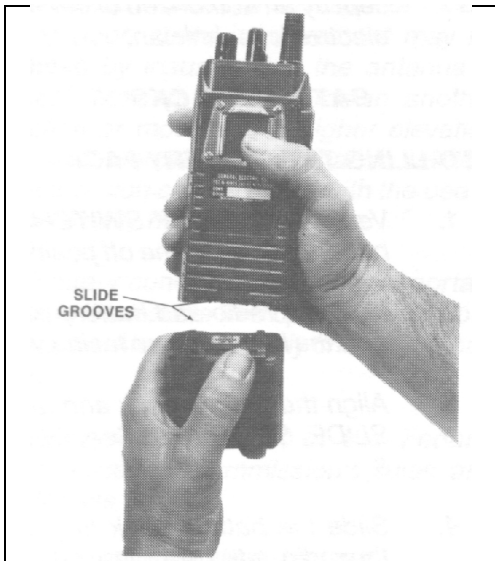

Figure 8 - Installing The Battery Pack
- 3. Align the battery pack and radio SLIDE GROOVES. See Figure 8.*